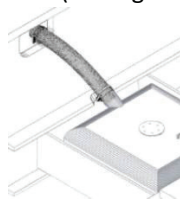

Figure 9
7. Clean and install a fuel filler tube and vent hose between the truck's fuel tank neck and the fuel door on the bed frame. Clamp the filler tube tightly on both ends (See Figure 9).